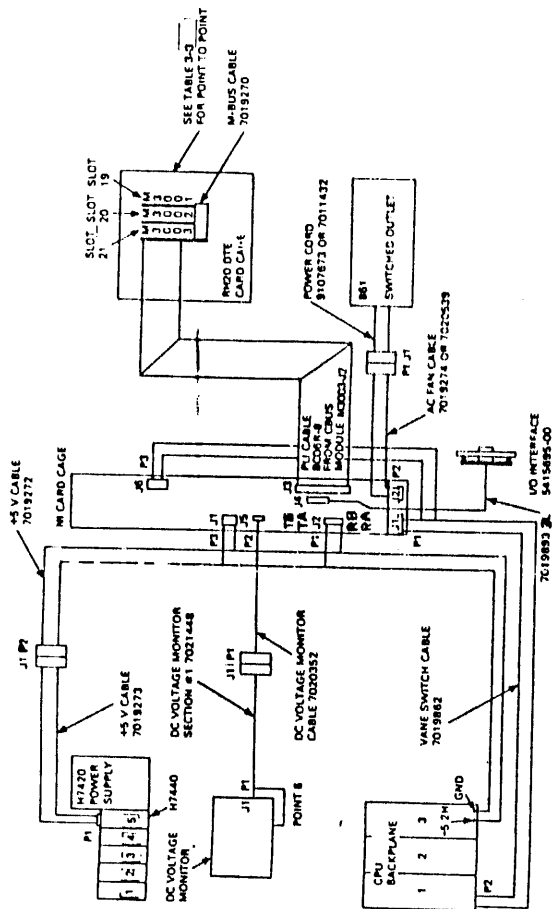

Figure 3-9. NIA20 Harness And Cable Interconnection Diagram
4. Prepare the internal NIA20 cable for installation by positioning a stick mount on the right-side frame member of the CPU Cabinet (viewed from the front), above the reserved C120 connectors on the Bracket Interface (see Figure 3-9).
Figure 3-9 shows a diagram of the harness and cable interconnections. The above harnesses are installed as follows:
21. Locate the PLI cable, DEC part number BC06R-08 (see Figure 3-1 for cable route and Figure 3-9 for cable connection). Connect one end of the PLI cable (identified by a red line imprinted on top of the cable) to module M3003 and route through the cable strain relief on the NIA20 card cage. The other end of the PLI cable (identified by a red line imprinted on bottom of the cable) to connector J3 on the NIA20 card cage (see Figure 3-6). To secure the PLI cable, install adhesive foam, DEC part number 1213716-00, within each of the 4 flat cable clamps. Install one cable clamp on the side of the CPU card cage and three cable clamps across rear of cable support panel.